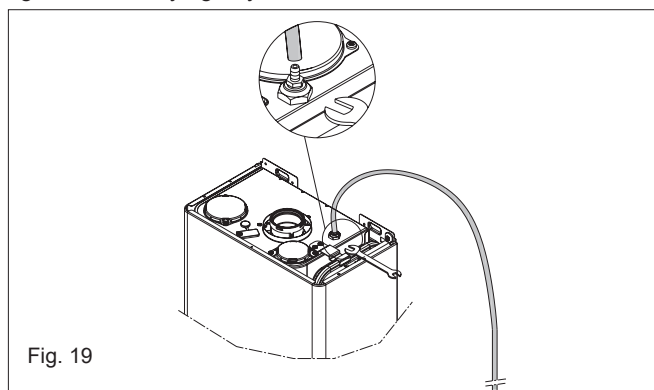

Fig. 19
5.3.1 MANUAL AIR RELEASE (fig. 19)